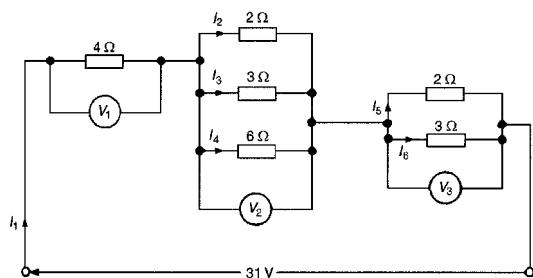

Figure 5.33
- 9 Determine the currents and voltages indicated in the circuit shown in Fig. 5.33